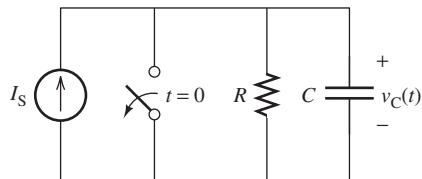

FIGURE P5.12 Circuit for Problem 5.12.
- 5.12 (A) Using your answers from Problems 5.10 and 5.11, find $v_C(t)$ and $p(t)$ in Figure P5.12 for $t = 10$ ms and $t = 20$ ms. $I_S = 3$ mA, $R = 5$ kΩ, $C = 2$ μF.